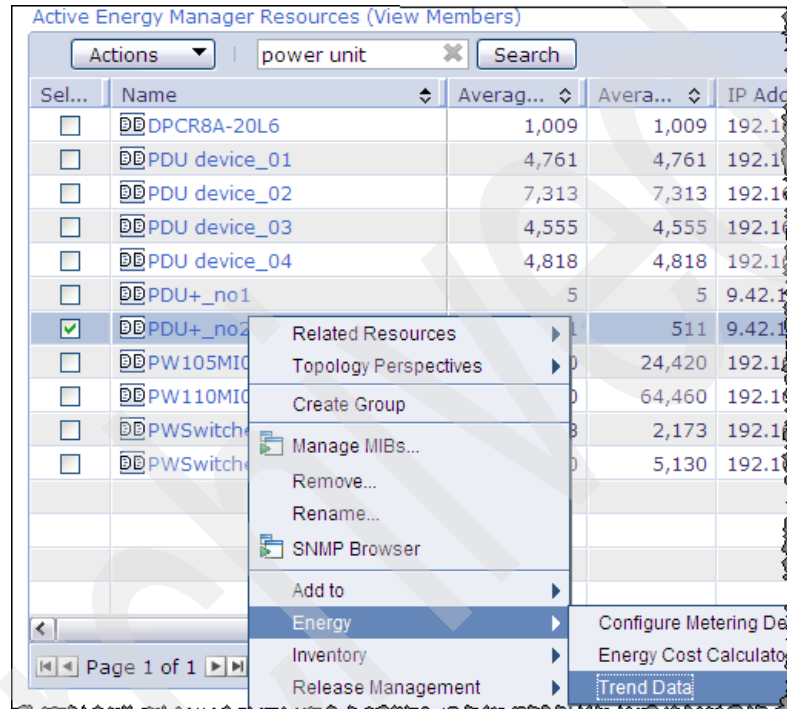

Figure 8-33 Searching for the PDU+
2. Right-click the PDU that you want to manage (in this example **PDU+\_no2**) and click **Energy** → **Trend Data**, as shown in Figure 8-33.